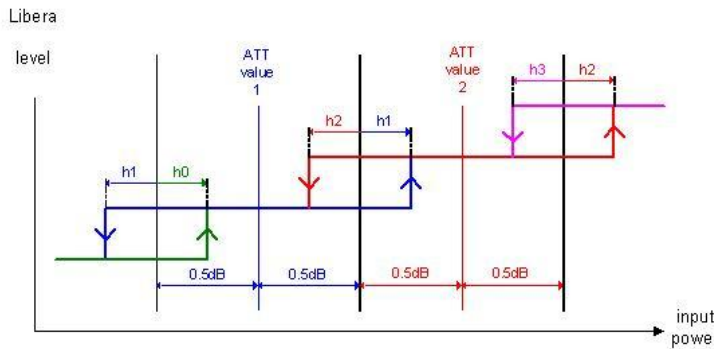

Figure 21: Gain scheme with hysteresis.
The first column (P) determines the input signal level in dBm, the second (Att) is the attenuator setting [dB], the third (h) is a hysteresis [dB]. Hysteresis was introduced to avoid unwanted switching between two adjacent power levels (see Figure 21). If the difference between currently set and actual level reading is less than 3 dBm, the new power level setting is applied directly. If the difference is more than 3 dBm, the new power level is set in few steps.
In Figure 21 there is a graphical presentation how transitions between two consecutive power_level are performed within AGC and how the hysteresis value affects these transitions. In the case below, the hysteresis of 0.25 dB is used.